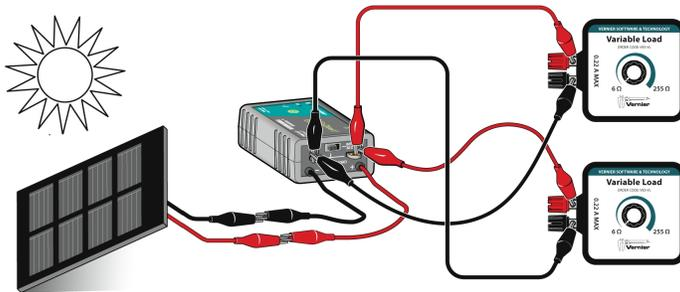
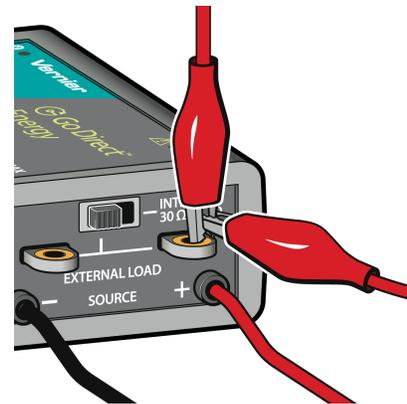

Figure 4 Parallel circuit setup
Figure 5 Close-up of connections on Load terminal
- a. Connect two Variable Loads to the Energy Sensor Load terminals in parallel as in Figure 4. Figure 5 shows a close-up of how to connect the Variable Loads to the Load terminals. Clip one Variable Load to the Load terminal and the second Variable Load to the clip for the first Variable Load.